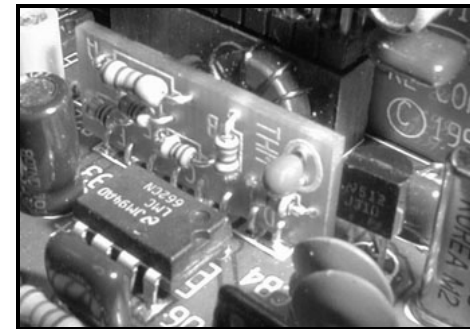

Figure 6-14a
- Locate the position for resistor network **RP3** (near the front-left corner, adjacent to U6). Slide each of the 8 leads of the thermistor board through the corresponding holes at RP3. The components on the thermistor board should be facing U6, and the thermistor should be oriented toward the location of crystal X1. (See Figure 6-14a.)